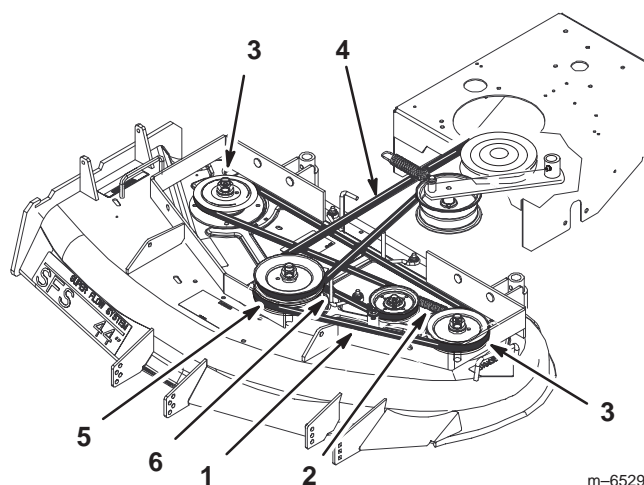

Figure 78
5. Disconnect the idler arm spring to relieve tension on the idler arm and idler pulley, then remove the worn deck belt (Fig. 78).
6. Install the new deck belt around the two outside spindle pulleys, the idler pulley, and in the lower groove of the center spindle pulley (Fig. 78).
7. Connect the idler arm spring (Fig. 78).
9. Adjust deck belt guide an 1/8 inch (3 mm) from belt (Fig. 78).